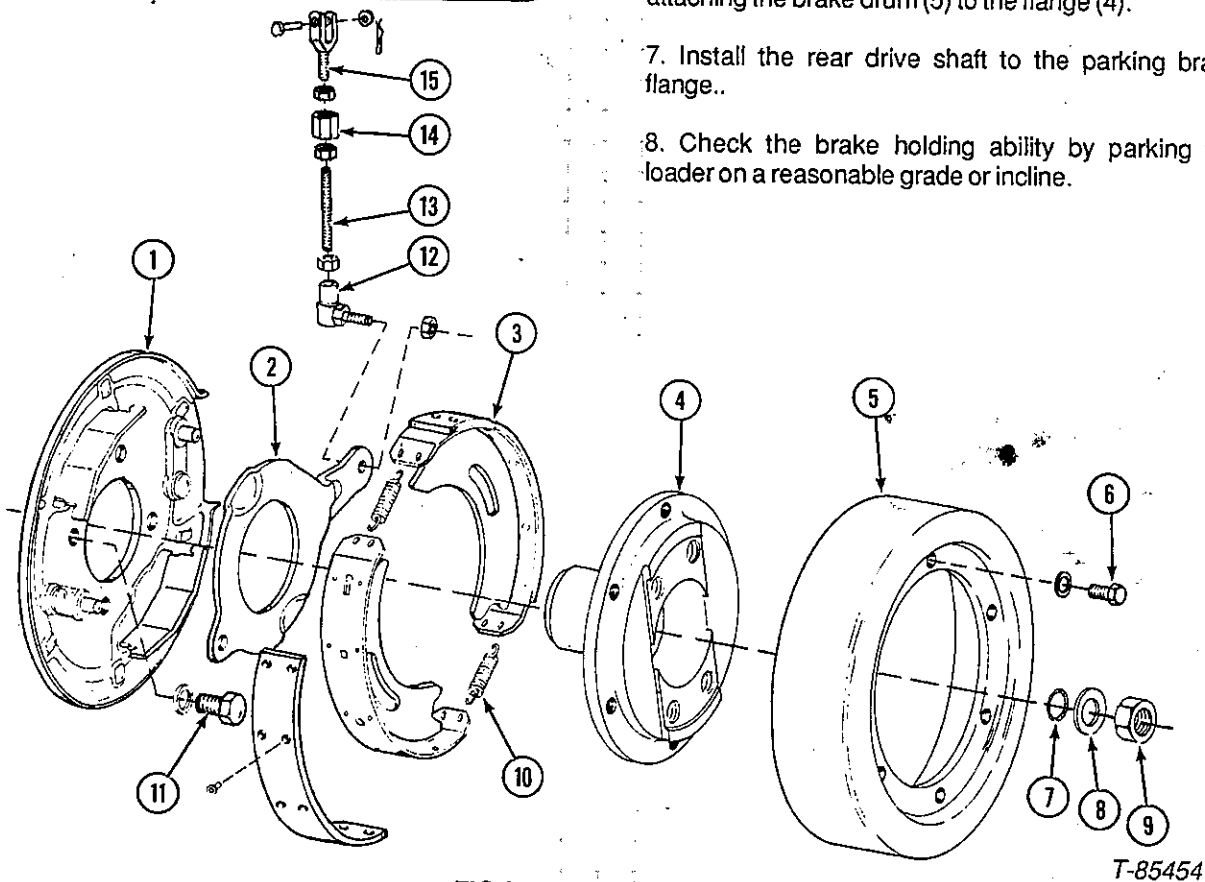

FIG.2-5 PARKING BRAKE
3. Remove the capscrews (6), Fig. 2-5, and lockwashers attaching the brake drum (5) to the flange (4).
4. Loosen the locknut on the tierod (13), and rotate the adapter (14) until the lever (2) can be adjusted to give a 0.25mm (0.010 in.) clearance between the brake shoes (3) and the brake drum (5).
5. Tighten the locknut on the tierod (13) securing the adapter (14).
6. Install the capscrews (6) and lockwashers attaching the brake drum (5) to the flange (4).